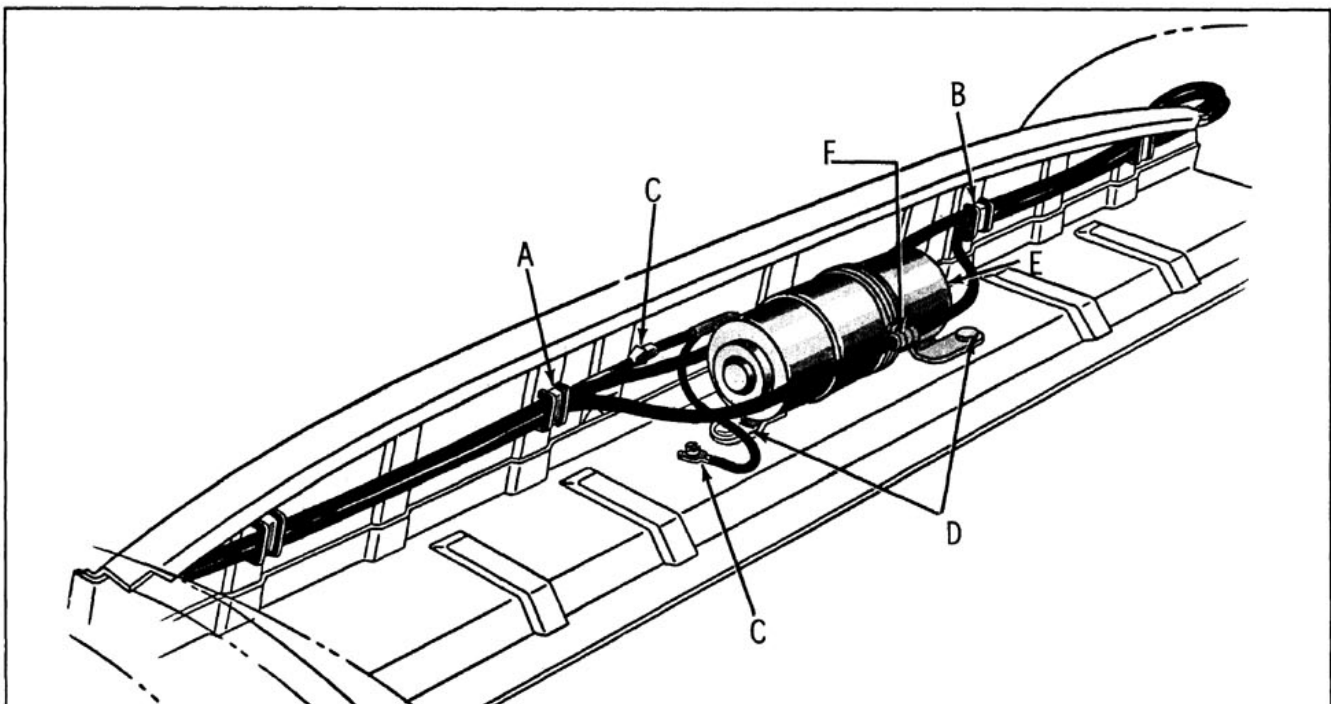

Fig. 16-151 Hydro-Lectric Motor and Pump Assembly
The high pressure hydro-lectric unit consists of a 12 volt reversible type motor, a rotor-type pump, two hydraulic lift cylinders, and an upper and lower hydraulic hose assembly. The unit is installed in the body directly behind rear seat back. (Fig. 16-151)
6. Remove clips securing wire harness and hydraulic hose to rear seat back panel. (View "A" and "B", Fig. 16-151)
7. Disconnect motor leads from wire harness and ground attaching screw. (View "C" Fig. 16-151)
8. To facilitate removal, apply a rubber lubricant to pump attaching grommets; then carefully disengage grommets from floor pan. (View "D", Fig. 16-151)
10. With a straight-bladed screwdriver, vent reservoir by removing filler plug; then reinstall plug. (View "E", Fig. 16-151)
11. Disconnect hydraulic lines and cap open fittings to prevent leakage of fluid. (View "F", Fig. 16-151). Use a cloth to absorb any leaking fluid, then remove unit from rear compartment.
1. Check connection of motor ground wire to body metal. (View "C" Fig. 16-151)